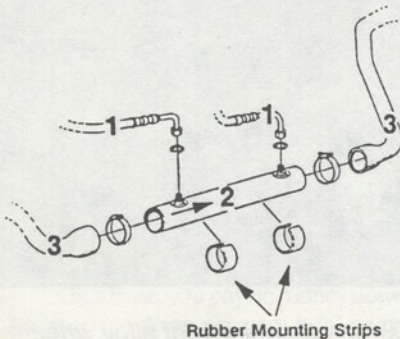

Figure 3. Note the arrow on the oil cooler showing correct installation orientation.
3. Loosen the hose clamps that fasten the lower radiator hose to the cooler and remove the cooler. Transfer the rubber mounting strips to the new cooler (Figure 3).
4. Fasten the two radiator hose ends to the new oil cooler and tighten the hose clamps. Note the arrow on the cooler indicating correct orientation (Fig. 3).